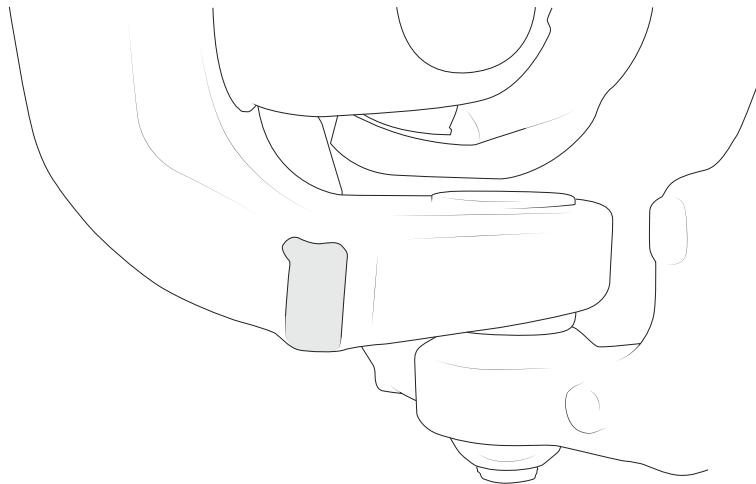

Figure 48
1. Grind the axle where the factory steering stop makes contact with the knuckle. Remove paint to a bright shiny metal for welding (fig. 48).